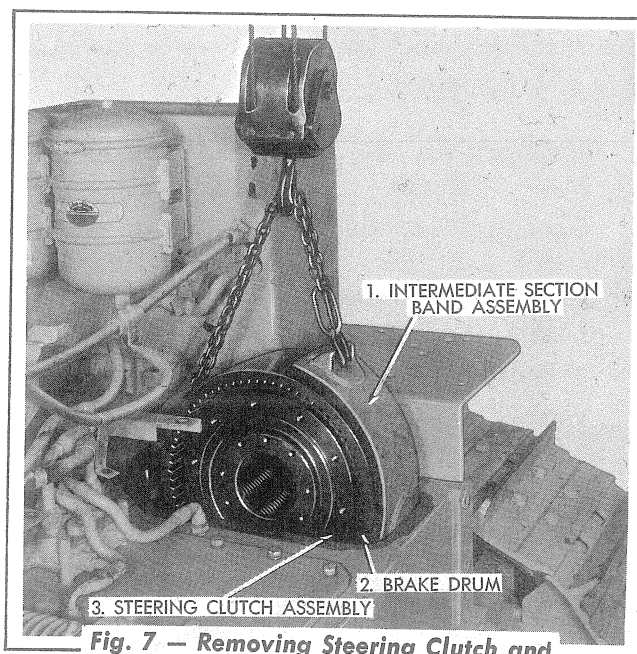

Fig. 7 — Removing Steering Clutch and Brake Drum Assembly
15. Install a pin in the bottom section of the brake band and attach a chain to the brake band as shown in Fig. 7. Lift and remove the steering clutch and brake drum assembly from the steering clutch compartment.